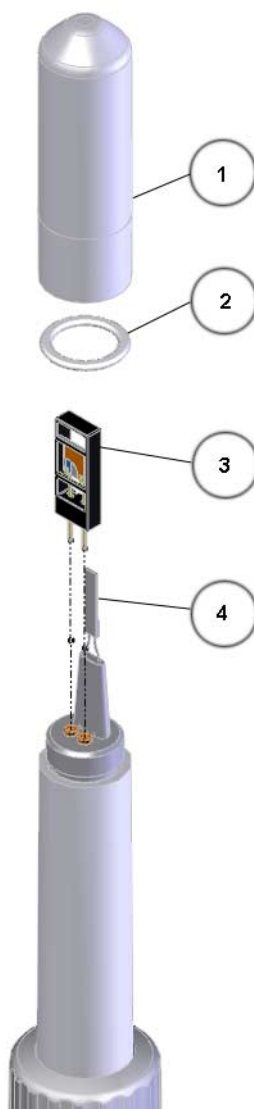

Figure 19 HMP155 Sensor and Filter Structure
1. Remove the filter from the probe by turning it counter-clockwise. When pulling out the filter, be sure not to damage the sensor. Refer to Figure 19 on page 43.